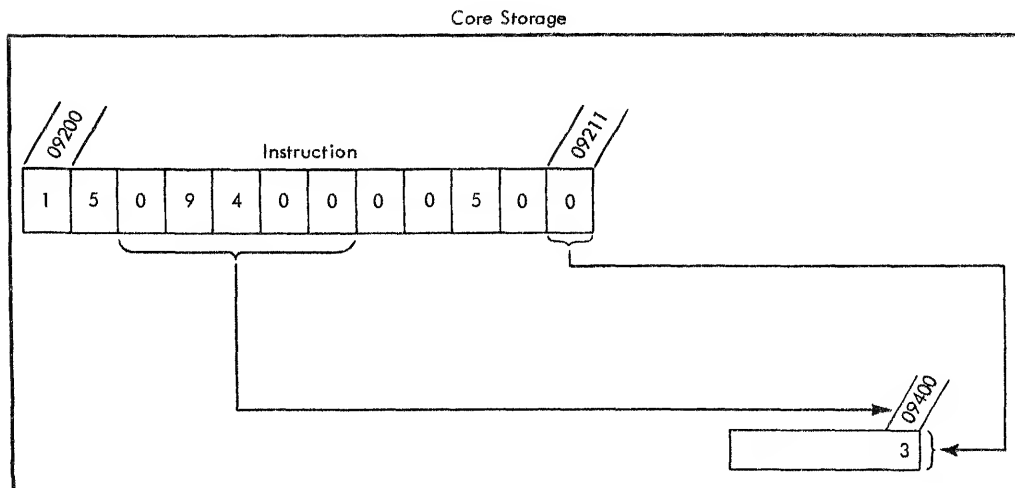

Figure 38. Transmit Digit Immediate - Data Flow
In Figure 38, if the Transmit Digit Immediate instruction (15 09400 00500) is at 09200, the digit (0) at 09211 is transmitted to the core storage location